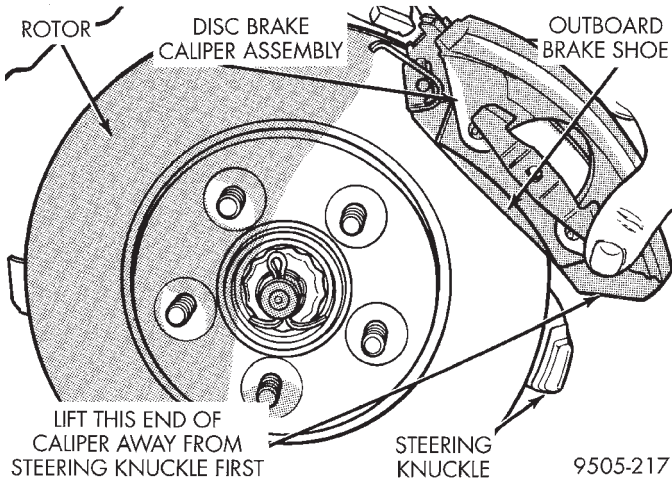

Fig. 4 Removing Disc Brake Caliper
(6) Remove disc brake caliper assembly from steering knuckle. Caliper is removed by first lifting bottom of caliper away from steering knuckle, and then removing top of caliper out from under steering knuckle (Fig. 4).